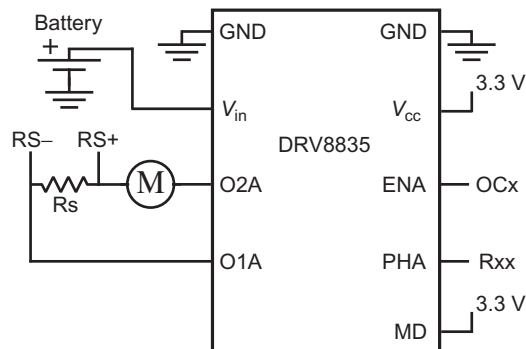

Figure 28.8
- Now that the PWM output appears to be working, it is time to wire up the DRV8835 H-bridge circuit, as discussed in Chapter 27.1.1, to the motor and the PIC32 outputs (Figure 28.8). Notice that the $15\text{ m}\Omega$ resistor on the current-sense PCB is in series with the motor. **Turn in a circuit diagram showing all connections of the H-bridge to the NU32, motor, and current sensor PCB.**